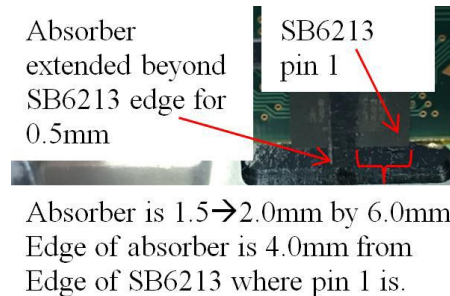

Figure 8.5. RF Absorber Placement
- Reduce crosstalk by adding a strip of RF absorber offset towards the RX antenna on the integrated circuit of the MOD6211/MOD6213 transceiver module (Figure 8.5).